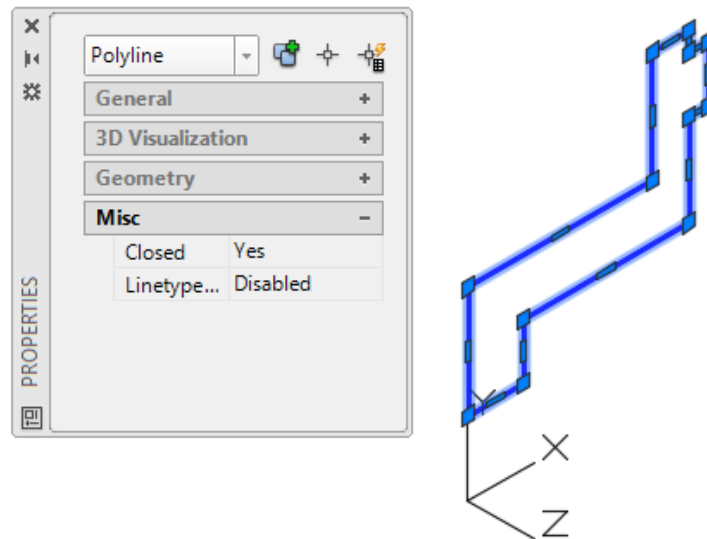

Figure Step 8
Step 8 To ensure that you have successfully created a closed polyline, open the Properties window and select the polyline. The object type should read Polyline, all the objects should show as part of the polyline and the Closed property should indicate Yes. (Figure Step 8)